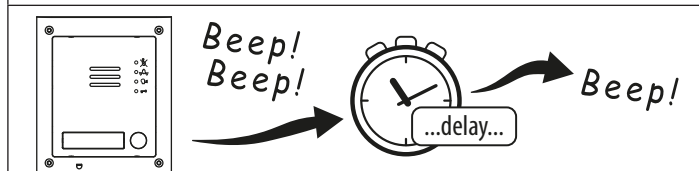

Fig. 61
3. Power up the GSM PRO module, 2 beeps will be heard followed by a brief delay and then a 3rd beep, as shown in **Fig.61**.